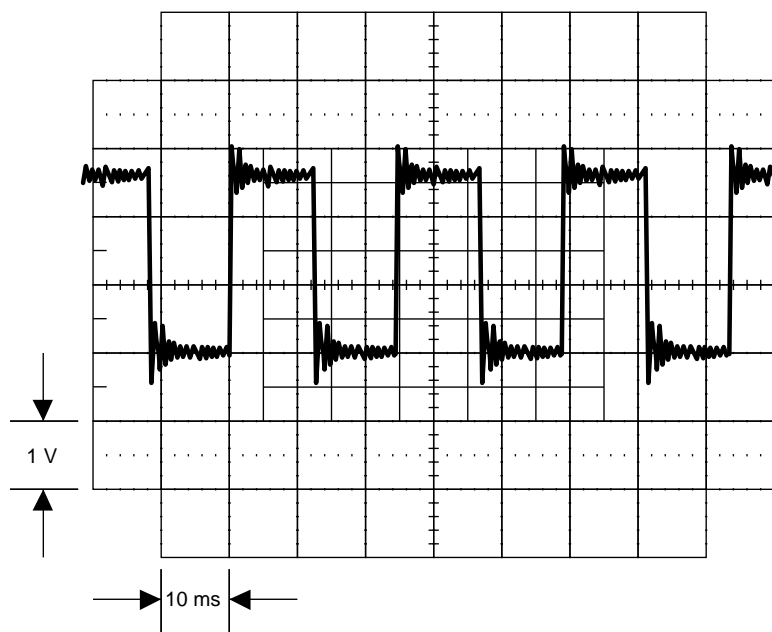

Figure 5-13. Waveform at TP12
3. Check the 2 MHz REF. Set the 5700A to 2V at 1 kHz, operate. Connect an oscilloscope to TP12 and verify it displays a 2 MHz signal similar to that shown in Figure 5-13. If a failure is detected, check U14A and U14B.